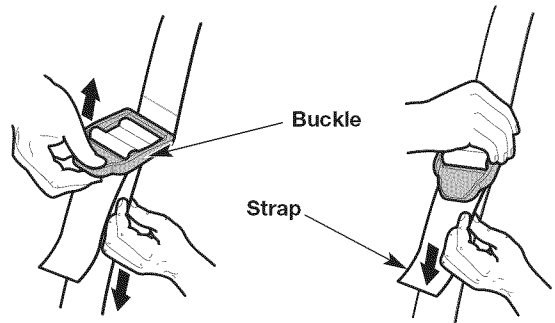

Fig. 5
6. Adjust the shoulder strap to fit the operator (Fig. 5). Pull the buckle up to loosen the shoulder strap. Pull the strap down to tighten the shoulder strap.